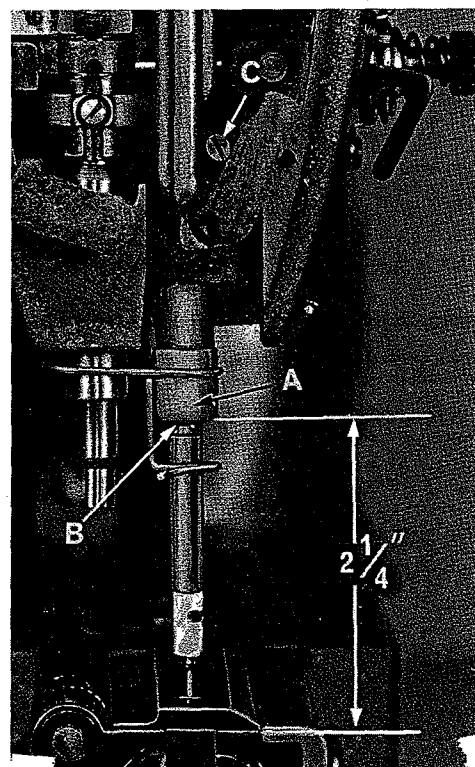

Fig. 13
The lower end of the needle bar frame, the one to which the needle bar is timed, is faced to height at the factory. The distance from the bottom of the frame (A, Fig. 13) to the bottom of the throat plate is 2 1/4 inches.
When the needle bar is at its lowest position, the upper timing line (B, Fig. 13) should be EVEN with the lower edge of the lower needle bar frame (A).
The illustration (Fig. 13) shows the proper setting of the needle bar.
Remove throat plate. Loosen the three set screws (A) in the hook, and hold the hook and the bobbin case holder in such a position as to prevent interference with the needle. Turn handwheel in operating direction until the needle bar is at its lowest position, and continue to turn the handwheel until the needle is ascending and the lower timing mark (Fig. 13) used in setting the needle bar is even with the lower edge of the needle bar frame (A).